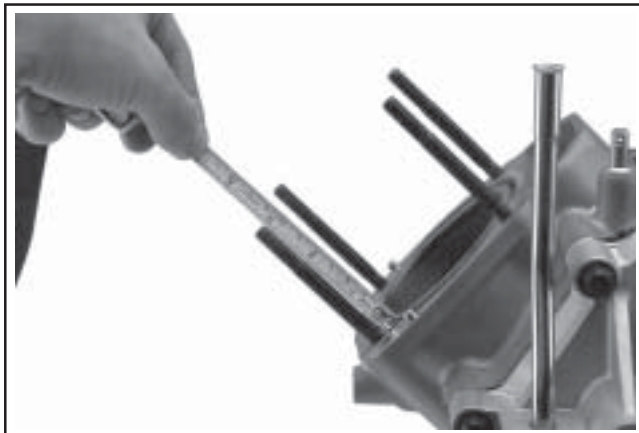

Figure 11-22. Checking Cylinder Stud Height.
3. Thread the end of the stud with the Loctite® into the crankcase, until an exposed stud height of **75 mm (2 61/64 in.)** is obtained. The end with the dash mark must be **out**. See Figure 11-22. When threading in the studs, use a steady tightening motion, without interruption, until the proper